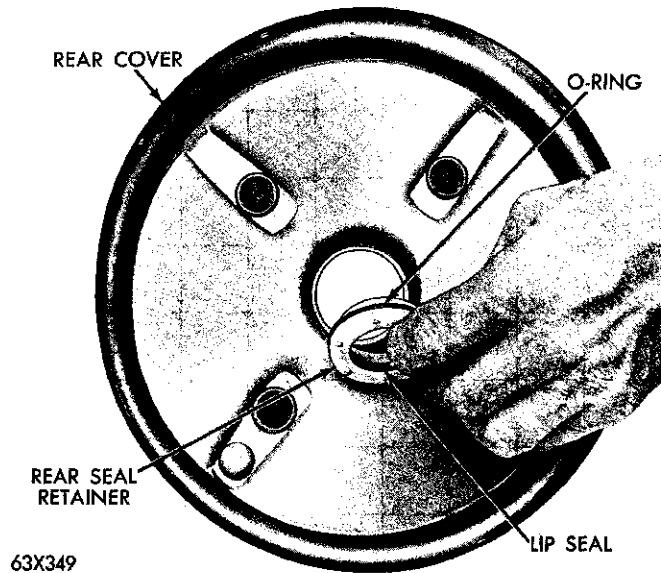

Fig. 33—Removing Rear Seal Assembly
(18) Using a small screw driver remove the rear seal from the rear seal retainer. Remove the "O" ring from the outer diameter of the seal retainer (Fig. 33).